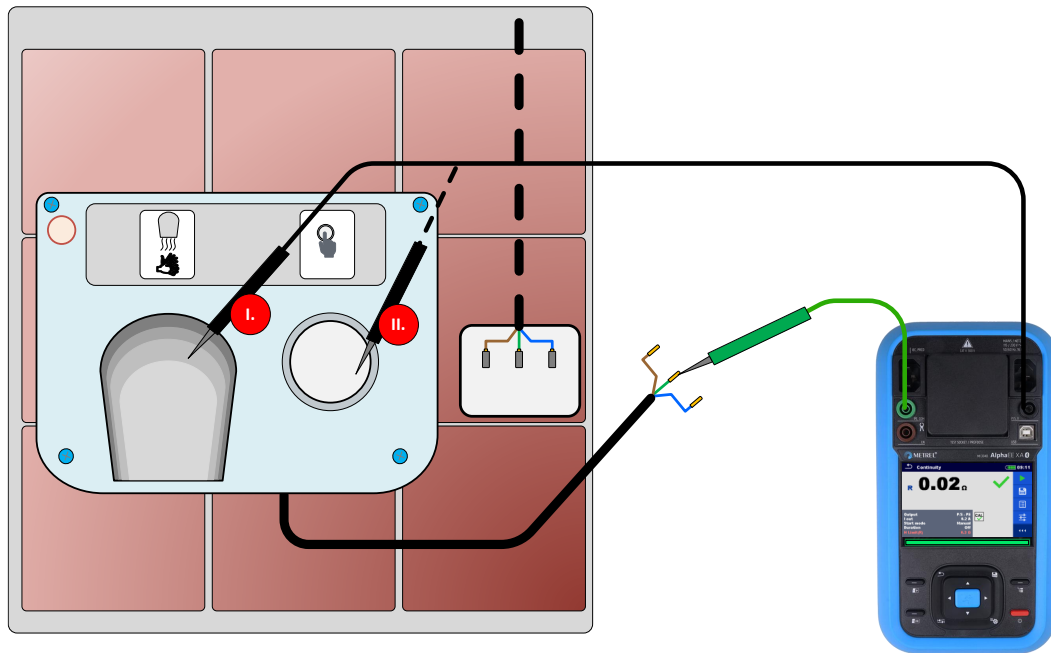

Figure 169_Continuity of protective earth
- Connect the DUT according to the connection diagram Figure 169_Continuity of protective earth.